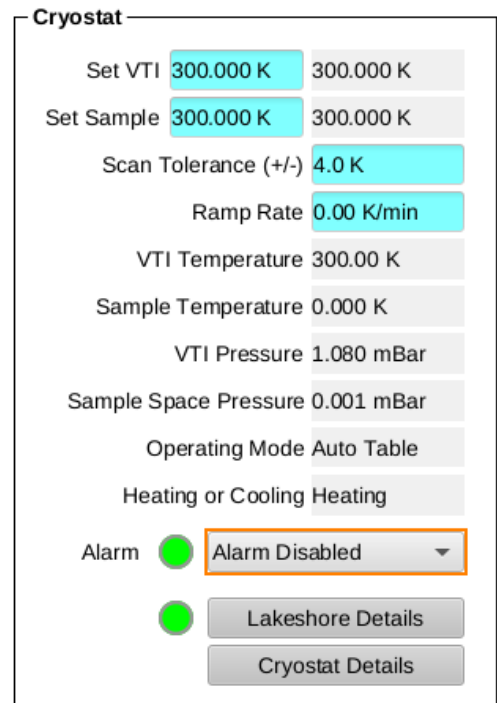

Figure 1. Cryostat controls on the dashboard.
- a. On the control computer BL11A-DASOPI0 in the hutch, disable the alarm by clicking the “Alarm Enabled” button in the Cryostat box on the dashboard (Fig 1).
- p. Finally, on the control computer in the hutch, re-enable the CSS alarm by clicking the “Alarm Disabled” button in the Cryostat box on the dashboard (Fig 1).